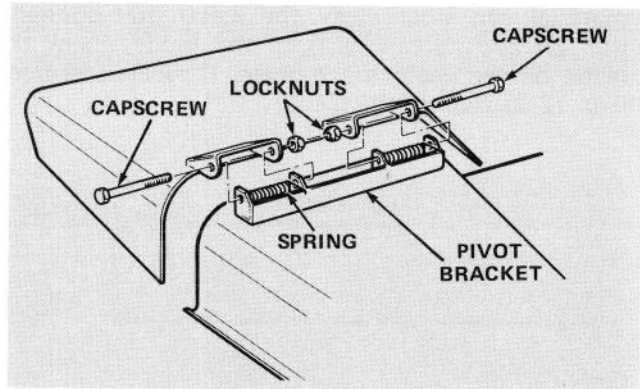

Figure 17
1. Remove two capscrews, locknuts and springs securing deflector mounts to pivot brackets (Fig. 17).
2. To remove the pivot brackets, remove carriage bolts, lockwashers and nuts (Fig. 17).